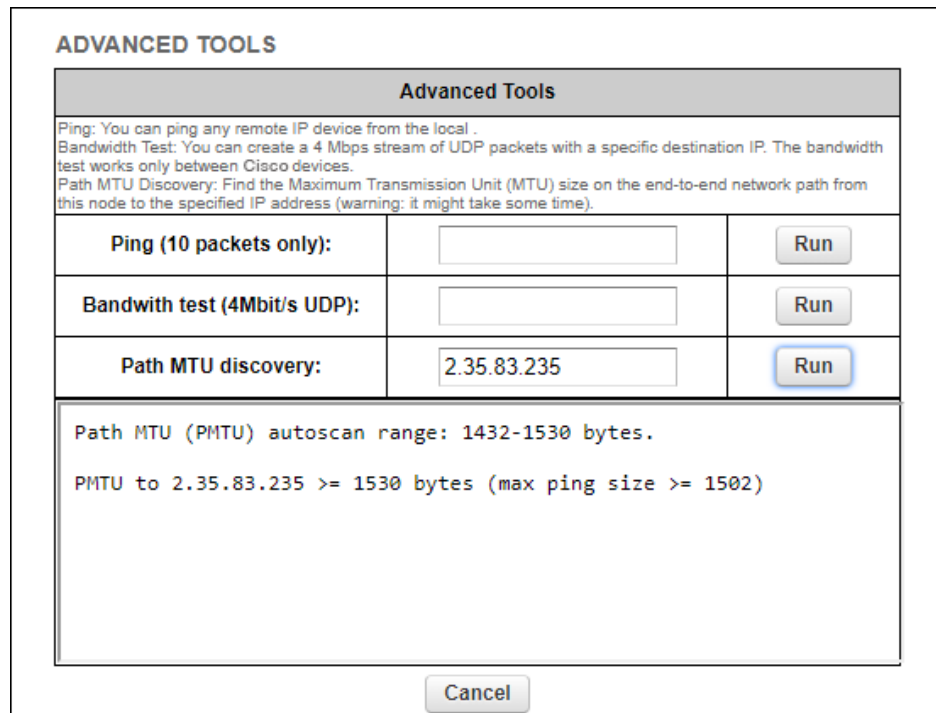

Figure 26. Advanced Tools window (Path MTU test tool)
2. Enter the IP address of the second unit in the **Path MTU discovery** field (Figure 26 \(page 72\)).